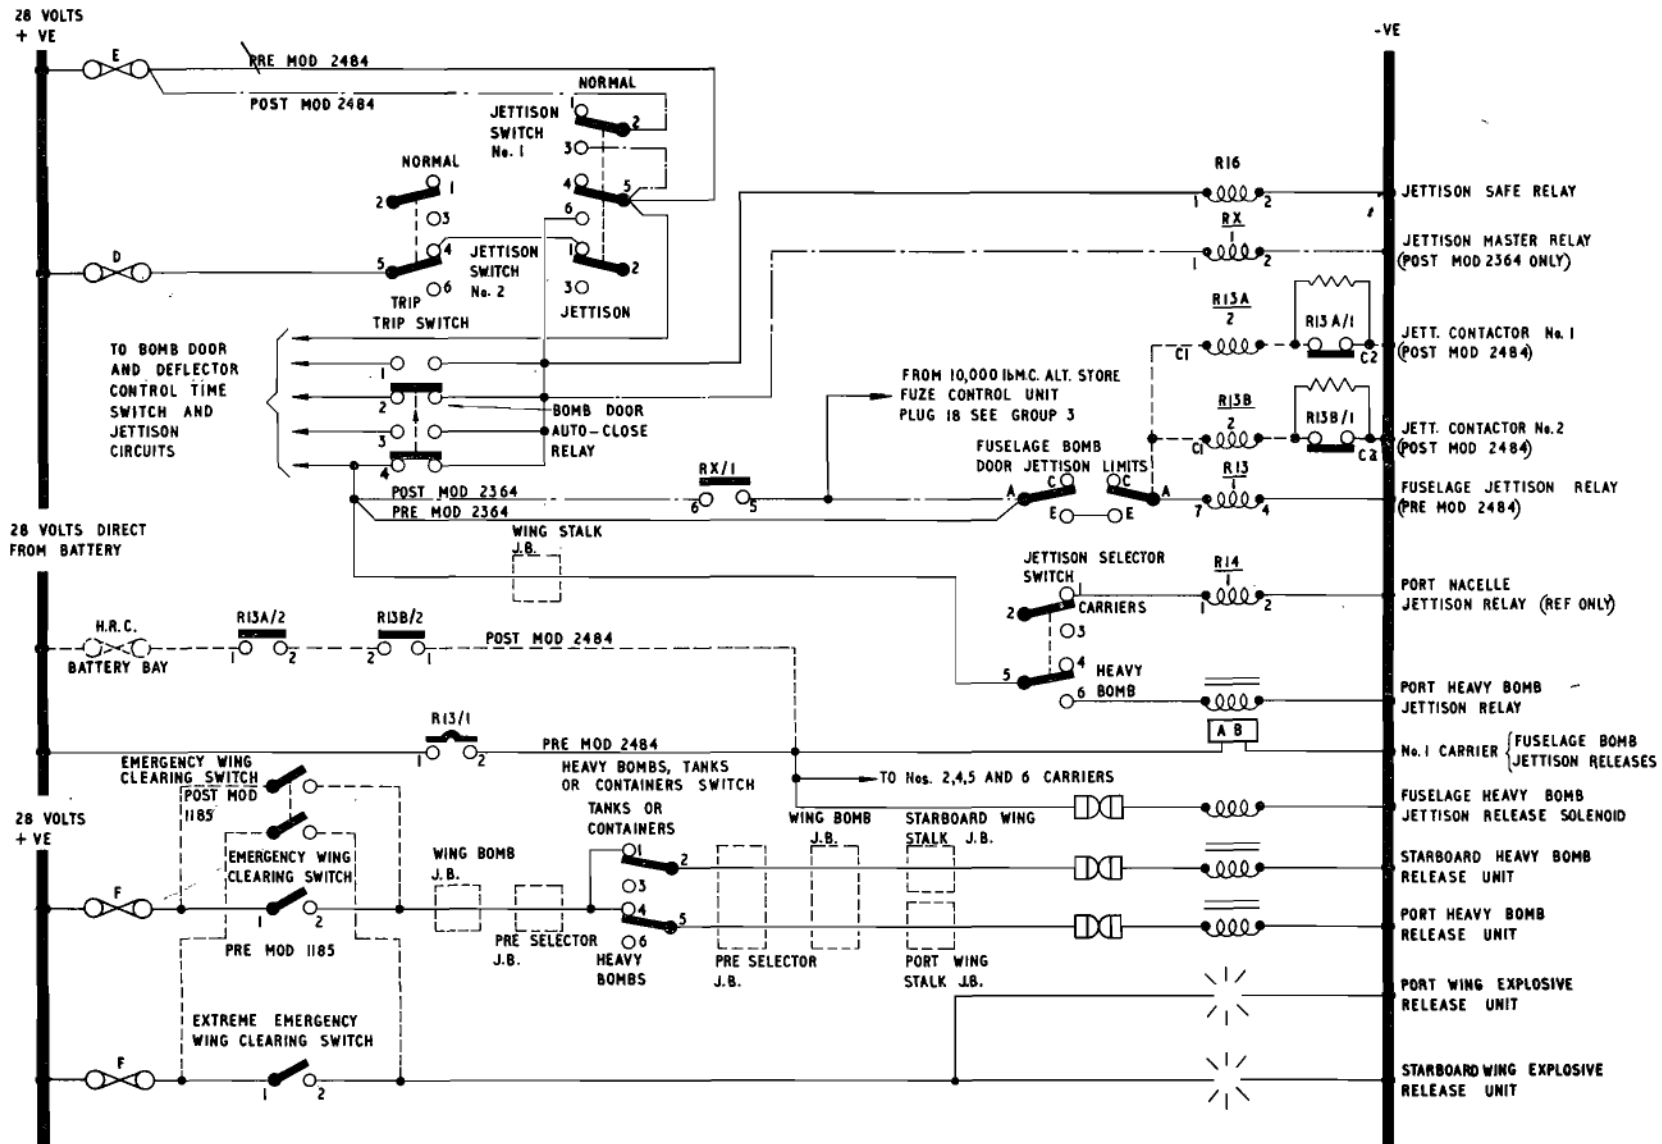

Fig. 5. Bomb release - emergency circuits
**Wing clearance** (*pre-Mod. 2296 only*) (*fig. 5*)